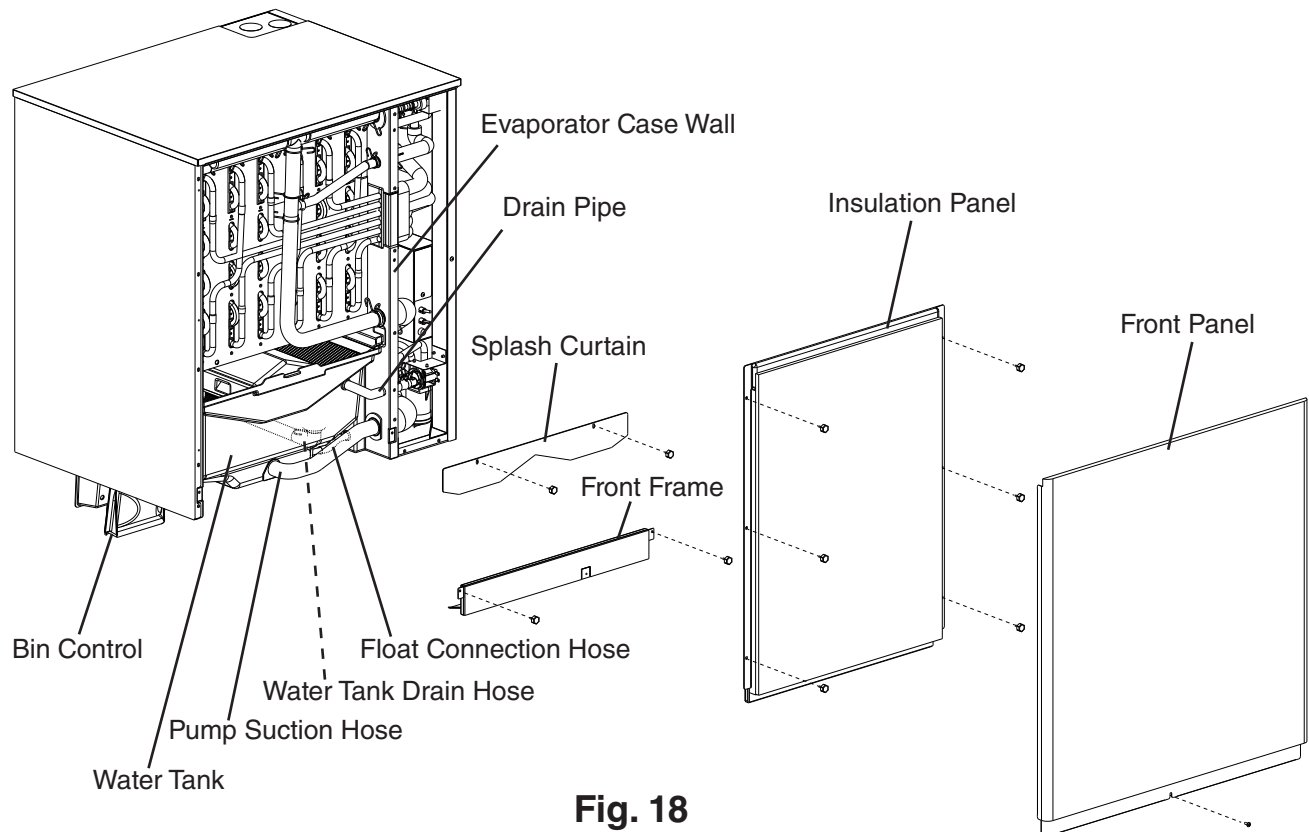

Fig. 18
- 1) If removed, replace the splash curtain, front frame, and all panels except the front panel in their correct positions. See Fig. 18. If not already removed, remove the front panel.